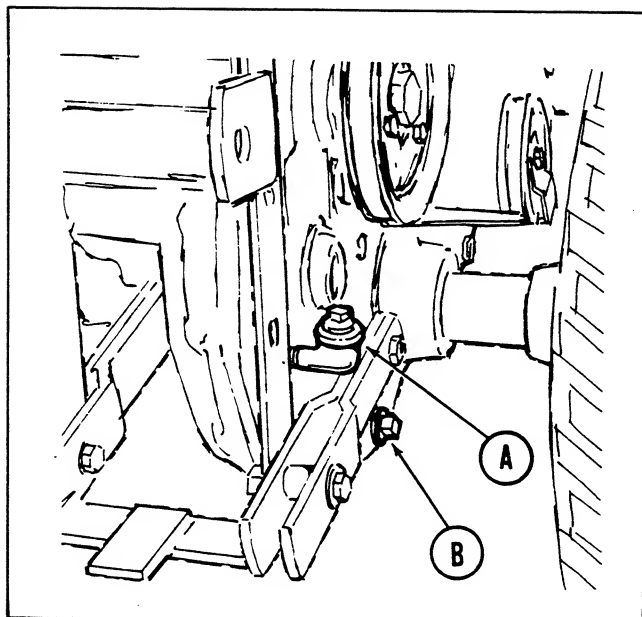

Figure 28. Rear of tractor showing transmission housing.
Power Take Off Pivot	Figure 28, Item A
CHECK TRANSMISSION OIL LEVEL: See figure 28. Remove pipe plug (A) to check the oil level in the axle housing. Oil should be level with the bottom of the threads. If it is not, add SAE 90 weight transmission oil. Replace the plug and tighten it securely.